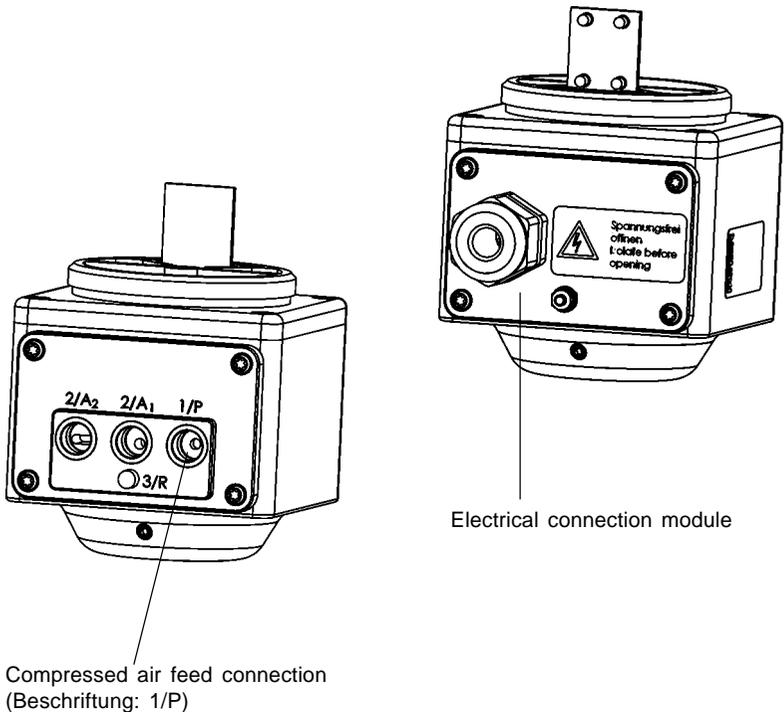

Fig. 1: 3-D view of TopControl, cover removed
- Apply the supply pressure to the pressure connection 1/P (see Fig. 1) (2 ... 10 bar, instrument air, free of oil, water and dust).
The waste air will escape via the silencer 3/R (see Fig. 1).